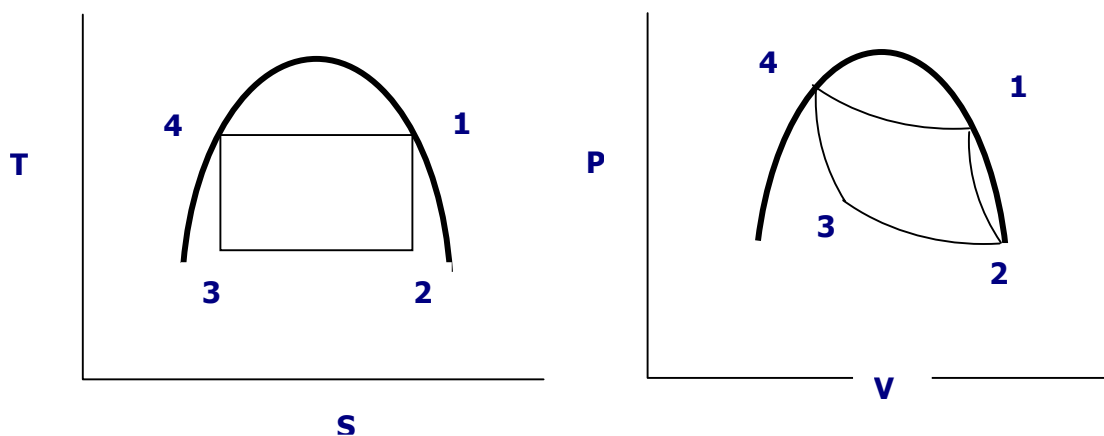

Fig 1 : P-V and T-S diagram within liquid-vapor region
- As shown in the fig .1 , the compression takes place between 3-4 , which is in liquid – vapor region . It is difficult for a compressor or a pump to work with two phase mixture.